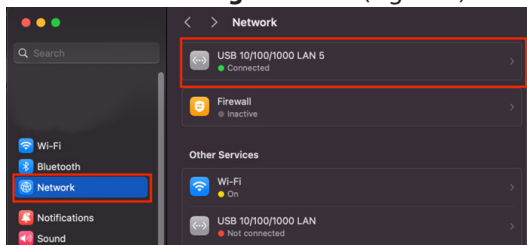

Figure 8
2. Navigate to **Settings** and select **Network** from the **Left Pane**. Click on the **Network Interface** that is currently connected to the **Existing Network**. (Figure 8)